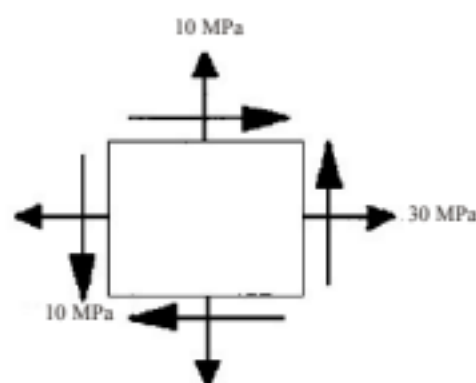

Fig. 2
7. The state of stress on an element is shown in Fig. 2. Determine the magnitudes and directions of principal stresses and also the greatest shear stress. Show all the results on properly oriented planes.